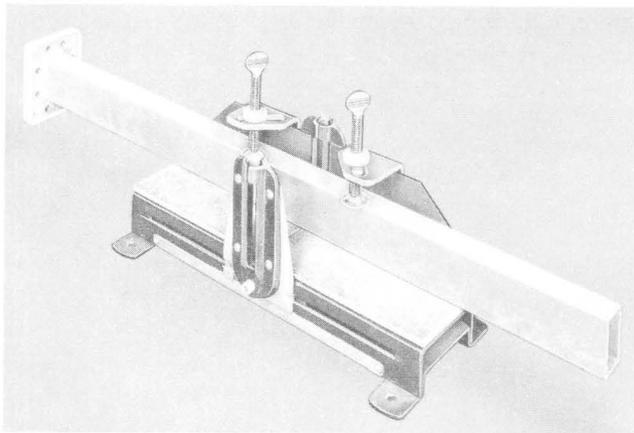

Fig. 4—Waveguide Section Positioned for Filing
4.06 Cut through the waveguide section using gentle, even strokes of the hacksaw. When the cut has been completed, remove the hacksaw from the miter box, loosen the miter box clamps, and reposition the waveguide section so the cut end extends about three inches beyond the end of the miter box (Fig. 4) to allow using the rotary file. Retighten the miter box clamps, hand tight.